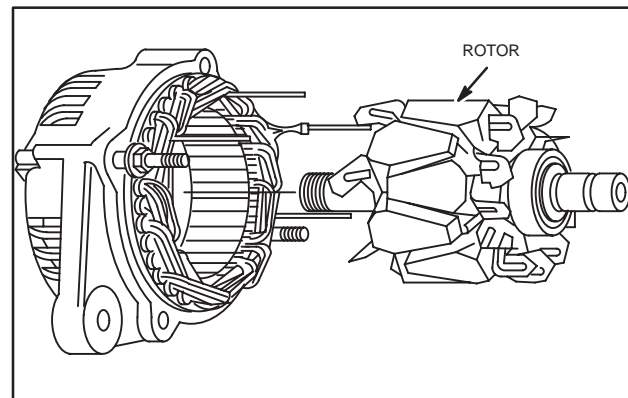

Fig. 27 – Remove Rotor
10. Remove rotor from drive end housing, Fig. 27.